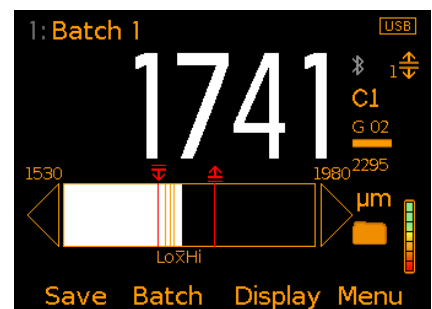

Figure 9: Readings & Bar Graph
- **Bar Graph - Model T (Figure 9);** An analogue representation of the current measurement value together with the highest (Hi), lowest (Lo) and average (\bar{x}) reading. The graph is updated automatically when each reading is taken.